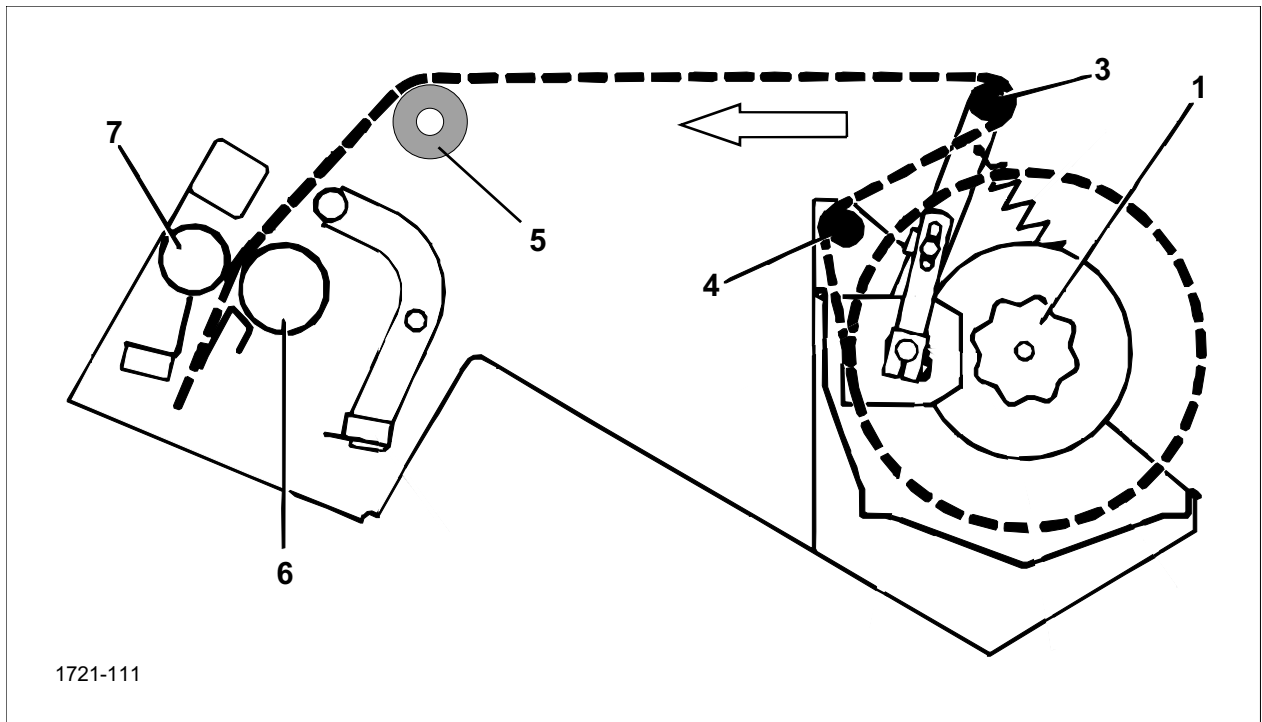

Figure 46
**Note!** Watch wind-off direction of the net roll! The net must enter the machine beneath the net roll (see Figure 46).